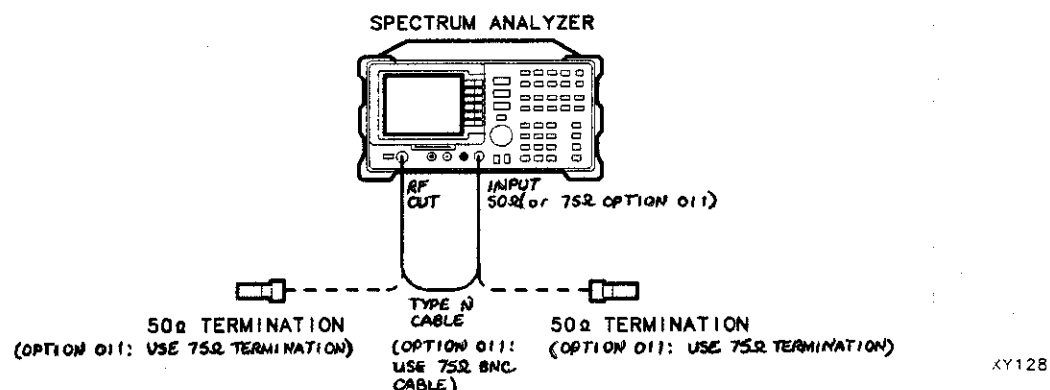

Figure 1-28. Tracking Generator Feedthrough Test Setup
1. Connect the Type N cable between the RF OUT 50 Ω and INPUT 50 Ω connectors on the spectrum analyzer. See Figure 1-28.